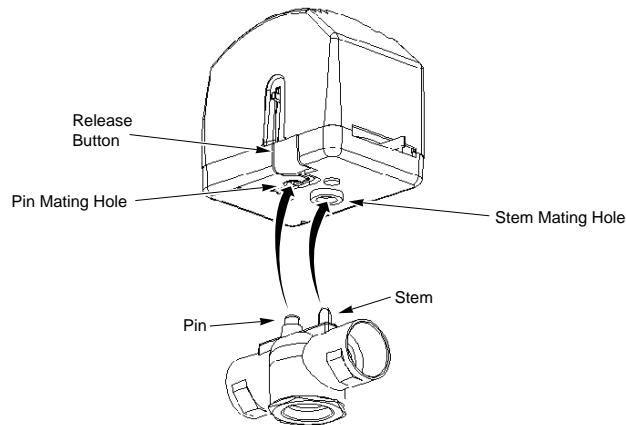

Figure-6 Removal and Installation of Actuator on Valve Body.
2. With the valve in mid-position, latch the solenoid by placing the manual solenoid latch lever in the "up" position. Then, detach the actuator by depressing the release button and pulling it away from the valve body (Figure-6).